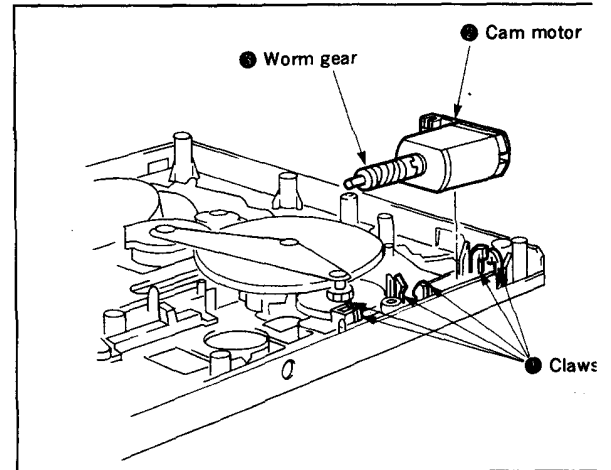

Fig. 3-35.
**3-29. CAM MOTOR (Fig. 3-35)**
- 2) Disengage the six claws ①, then remove the cam motor ② and worm gear ③.
- Check the meshing of cam motor ② and worm gear ③.